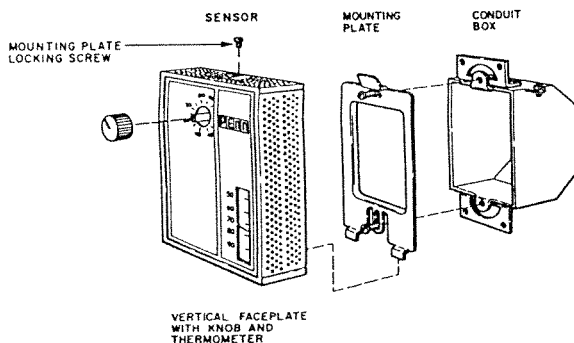

Fig. 2 — Line drawing illustrating method of mounting a vertical sensor to outlet box.
5. Hook the two slots in back of sensor over the formed prongs on mounting plate and swing into place against mounting plate. Tighten mounting plate locking screw, see Figs. 2 and 3.